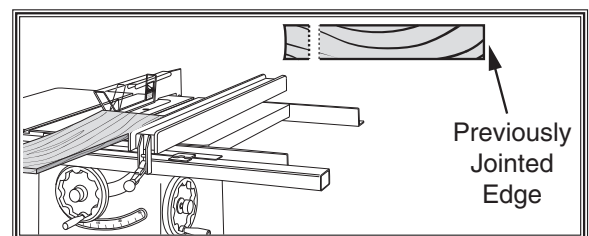

Figure 29. Rip cut on a table saw.
4. **Rip Cut on a Table Saw:** The jointed edge of the workpiece is placed against a table saw fence and the opposite edge cut off (see **Figure 29**).